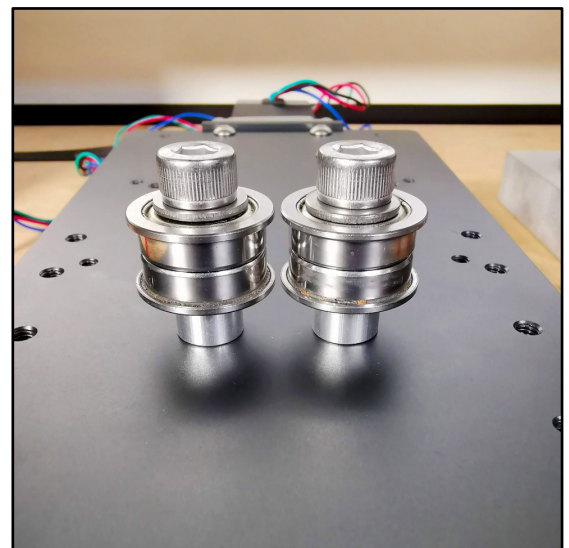

Figure 7
- M8 x 30mm X-Motor Idler Bolt (2)
- M8 Washer (2)
- M8 Spacer (2)
- M8 Guide Bearing (4)
1. Slide a washer onto one of the bolts, then slide on two (2) of the bearings (with the flanged edges to the outside), then an M8 spacer. See **Figure 7**. Do the same for the second bolt.
When fitted correctly, your X-motor idlers will look like **Figure 7** and the bolts will not poke through the front of the plate. Pay special attention to the order and orientation of each item on the bolt.